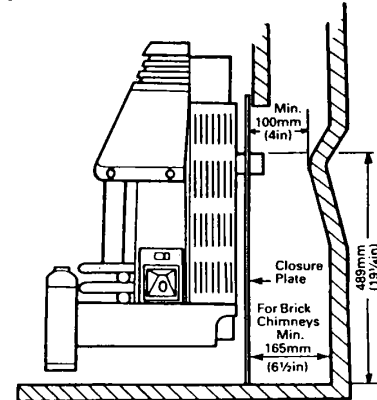

Fig. 3 Fireplace Opening
- (b) Fireplace opening: At the height of the flue outlet the fireplace should have a minimum dimension of 100mm (4in) from the front face of the opening to the fireplace back brick (Fig. 3). There must be a minimum height of 250mm (10in) from the bottom of the catchment space to the base of the the flue spigot.